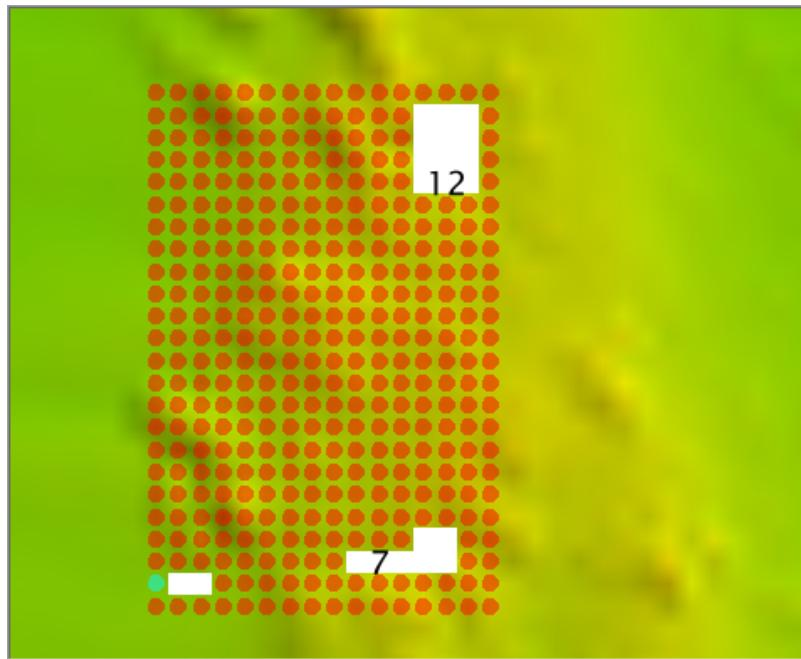

Fig. 2.23: Example for Object detection.
- In the example in (Fig. 2.23), Object Detection requirements identify the holes of 12 and 7 nodes, because each has 3 collinear, contiguous unpopulated nodes. The hole with 2 grids does not.